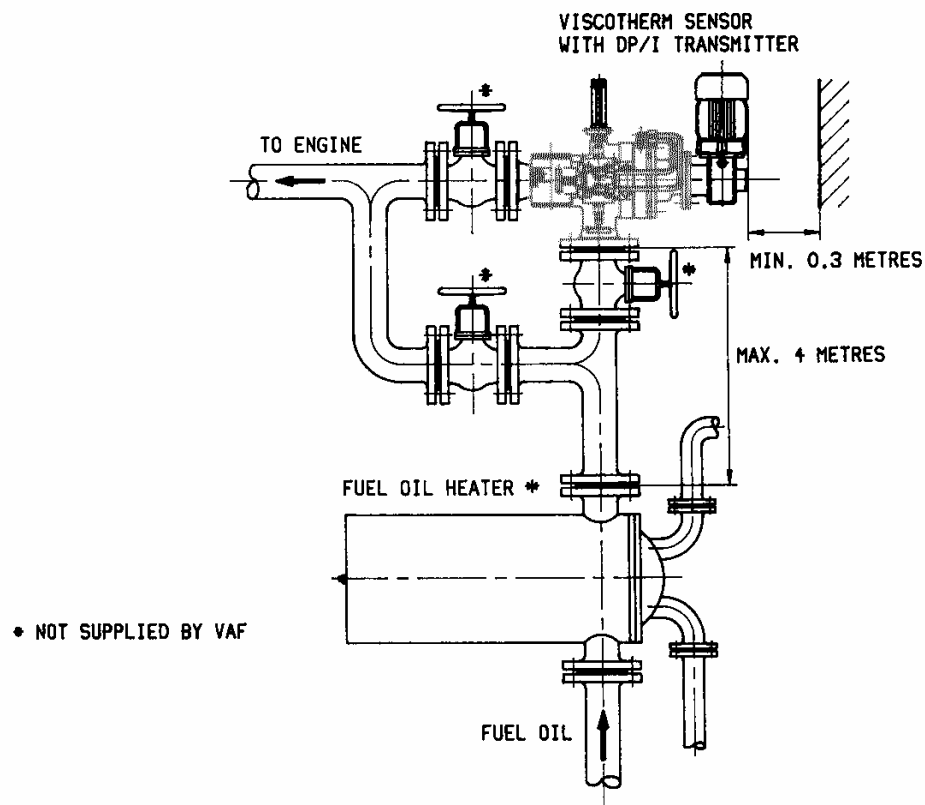

Figure 4, Installation diagram of sensor/transmitter assembly
6.1 MECHANICAL INSTALLATION (SEE FIG. 4)